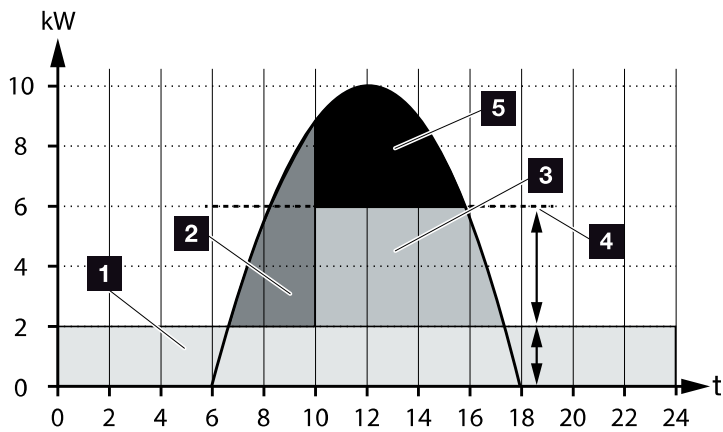

Fig. 56: Control without smart battery control
**Fig. 56**Item 4 shows how without smart battery control, especially when there is high solar irradiation, the generated PV energy remains unused e.g. in the case of limiting to approx. 50% because of the KFW ruling.